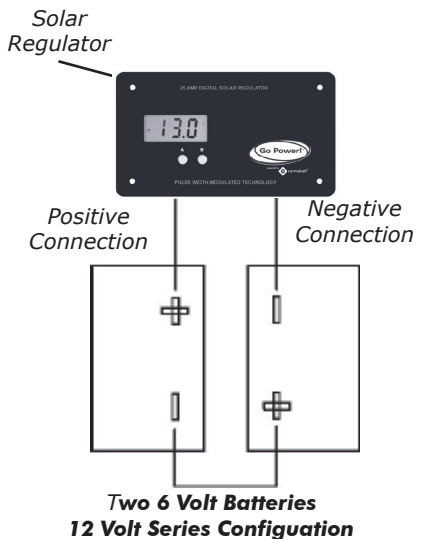

Figure 7
3. 6 Volt series battery connection. (See Figure 7)